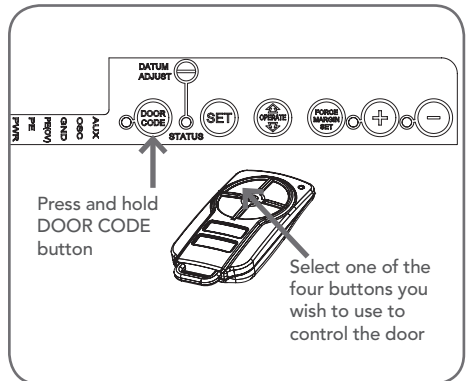

Fig. 8.1
- Press and hold the DOOR CODE button. The DOOR CODE LED will illuminate and beep to indicate the opener is in Code Learn mode (**Fig. 8.1**).
- Press and hold the transmitter button that you want to control the door for two (2) seconds, pause for two (2) seconds, then press the same button again for two (2) seconds and release.